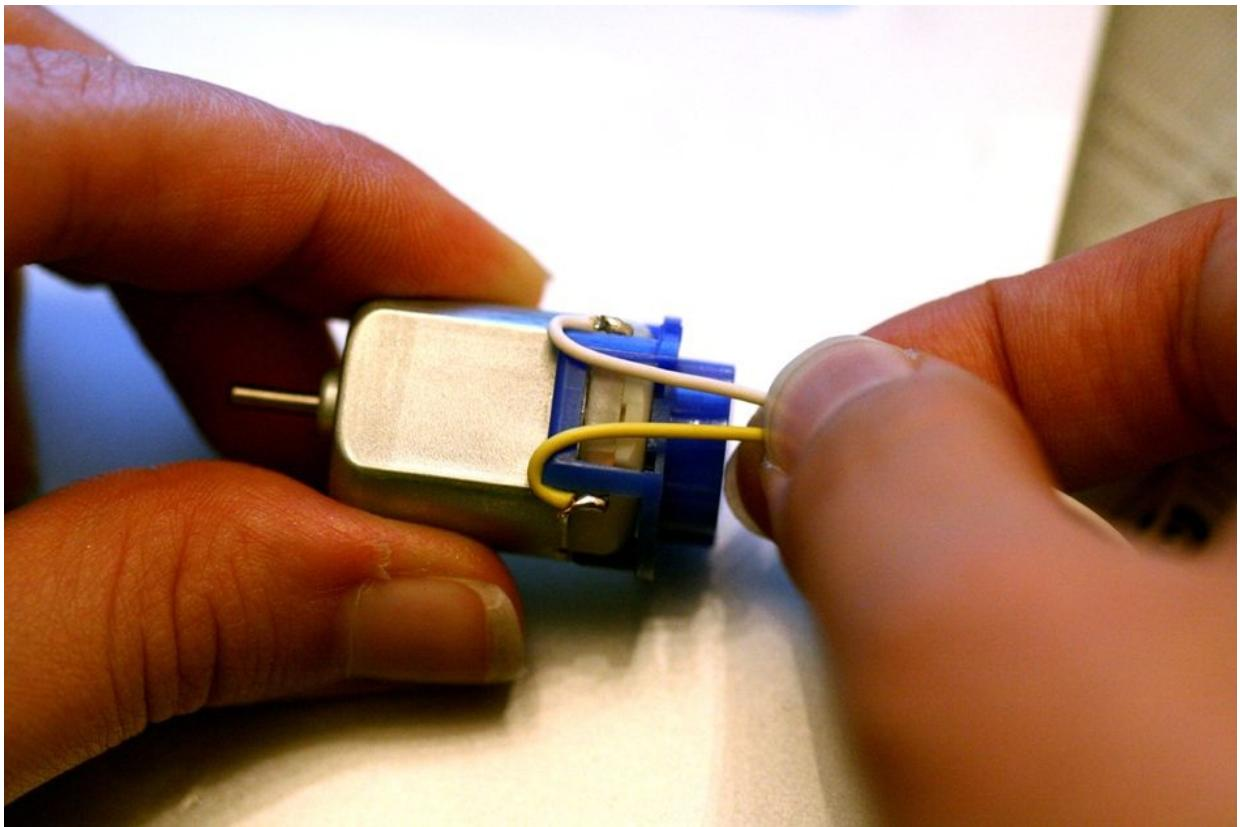

Figure 3-9. Positioning the wires
2. Double back the jumper wires, so that they are pointing away from the motor's spindle. Hold them against the body of the motor. The two wires should be close together, toward the center of the motor, as shown in Figure 3-9.